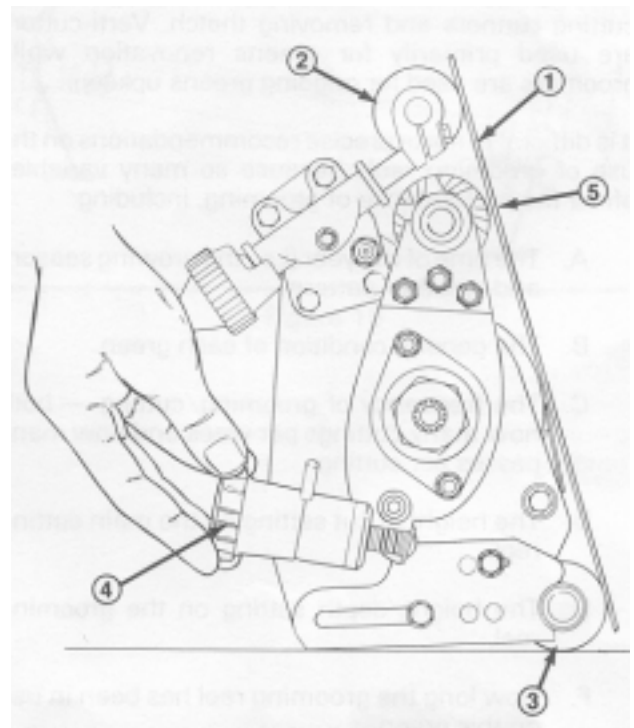

Figure 21
1. Make sure the rollers are clean and main reel is set to desired height of cut. Turn cutting unit over and position on work surface (Fig. 21).
3. On one end of the cutting unit, place a gauge bar across the front and rear rollers. Measure the distance from the lowest tip of a groomer blade to the gauge bar (Fig. 21). Lift and turn the micro adjustment (Fig. 21) to raise or lower blade tip. Each notch of the micro adjustment knob is equal to approximately .007 inch of groomer depth.